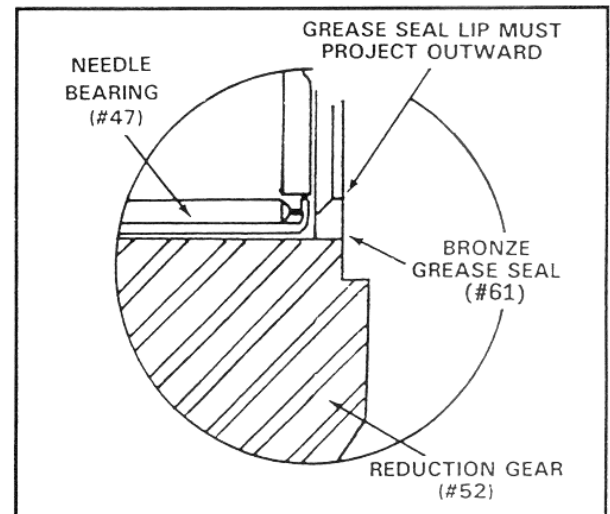

FIGURE 13
- 5.22 If needle bearing (#47) has been replaced then the grease seal (#61) must also be replaced. Press new seal (#61) into reduction gear (#52) making sure seal lip projects outward and seal is flush or .010 max. depressed below face of reduction gear. See figure 13.